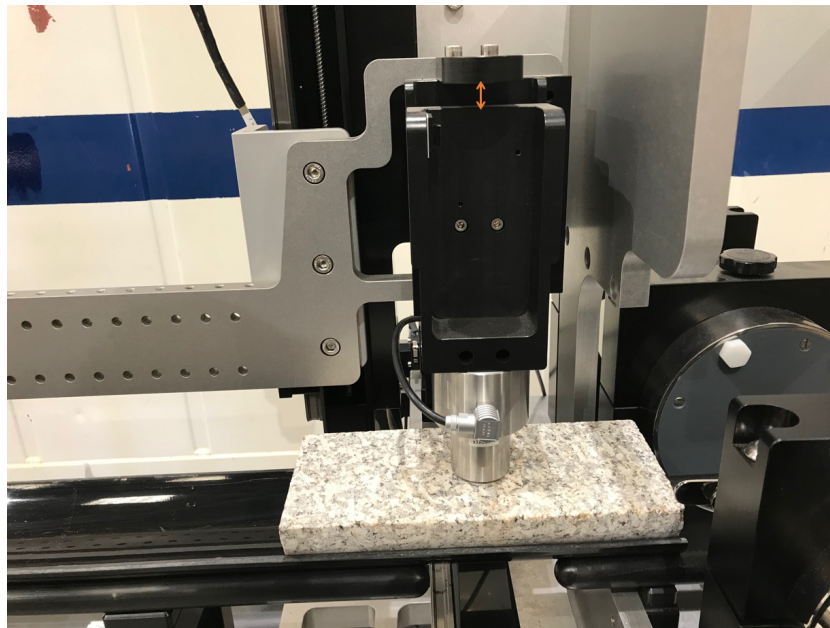

Figure 3: Transducer in contact with split core and housing mid-way in its travel (orange arrow)
- When prompted to by the software, slowly lower the Z-arm so the reference piece is in contact, and the transducer housing is approximately mid-way in its travel. (Figure 3);